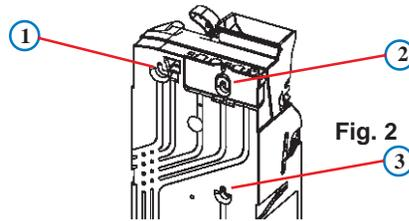

Fig. 2
- Once open, the mounting holes are accessible. Hang the coin manager on the mounting studs/screws, ensuring that the changer is mounted on all three studs/screws (See Fig 2).